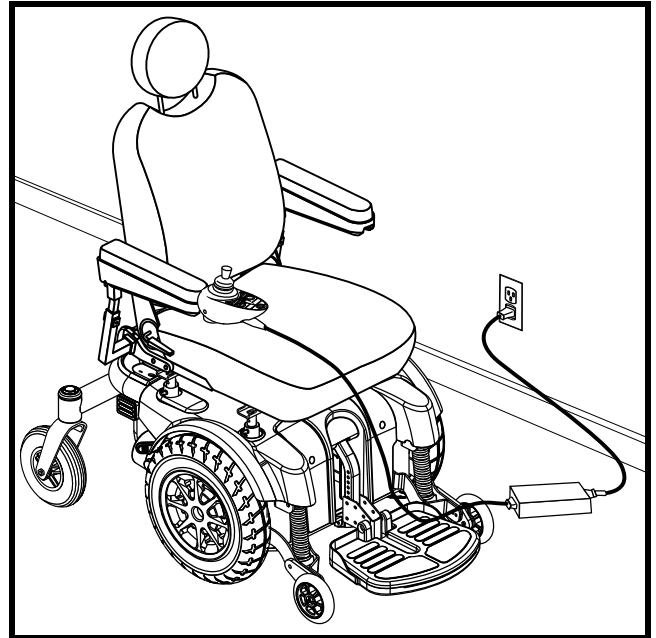

Figure 22. Battery Charging
1. Position the front of your power chair next to a standard electrical outlet. See figure 22.